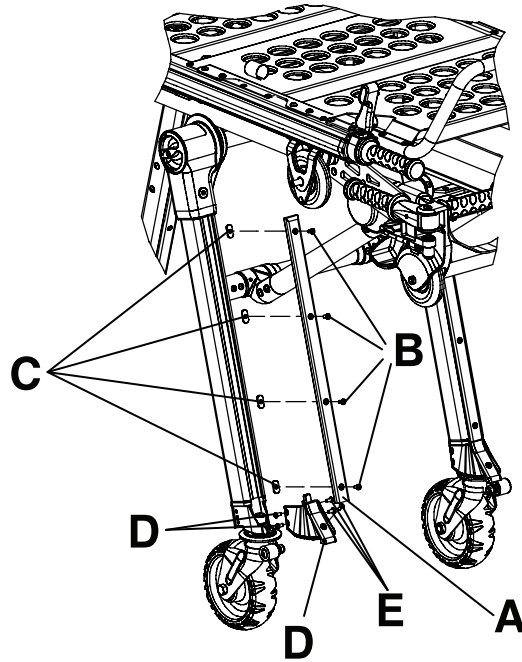

Figure 5 – Base wear strip replacement - Front leg assembly
1. To remove the worn wear strip (A): Using a T25 Torx wrench, remove the four button head cap screws (B) and weld nuts (C) (Figure 5). Save the weld nuts and button head cap screws. Discard the worn wear strip.
2. To remove the worn bumper cover (D): Using a T25 Torx wrench, remove and save the five button head cap screws (E) (Figure 5). Discard the worn bumper cover.
3. Using the five button head cap screws (E) that were removed in step 2, install the new bumper cover.
4. Assemble the four button head cap screws (B) that were removed in step 1 through the new wear strip. Thread the weld nuts (C) removed in step 1 onto the button head cap screws and tighten them one to two turns.